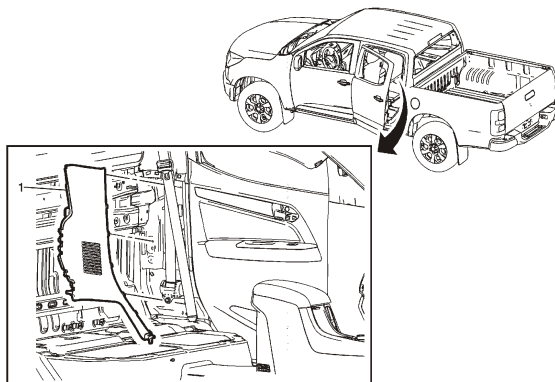

Figure 17
30. Pull the rear seat release tag and lower the rear seat back down (refer to the Owner's Handbook). Pull on the front edge of the rear side trim to remove the trim panel and gain access to the vehicle body cavity. Refer to figure 17.